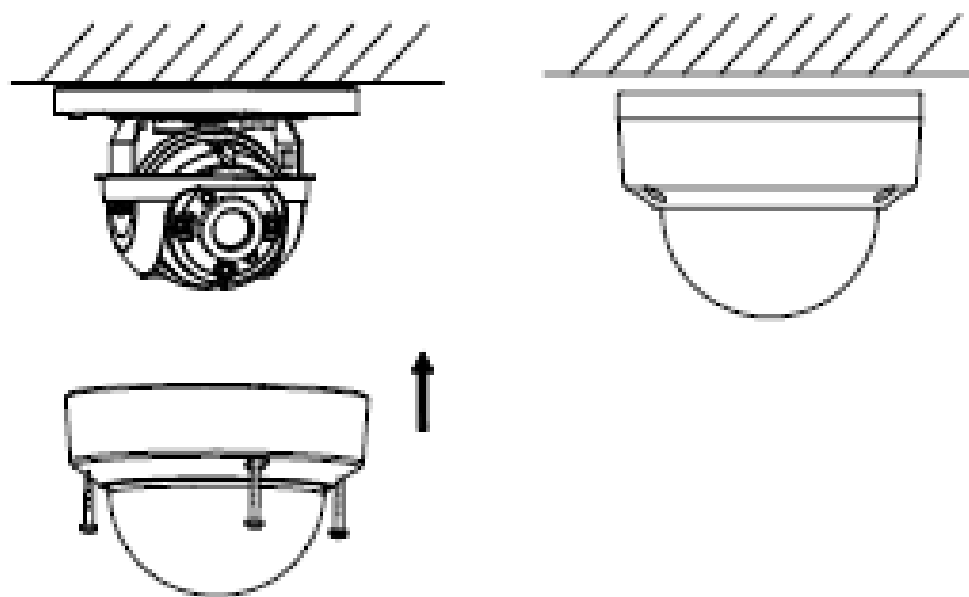

Figure 2-9 Bubble Reinstallation
3. Install the inclined base to the ceiling with supplied screws, as shown in Figure 2-9.